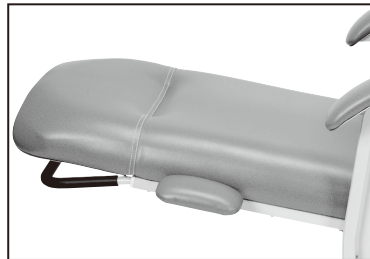

FIGURE 2
2. Lift the upholstered back from the sides and place it horizontally with the upright back tubes resting on the recliner frame. (See figure 2)